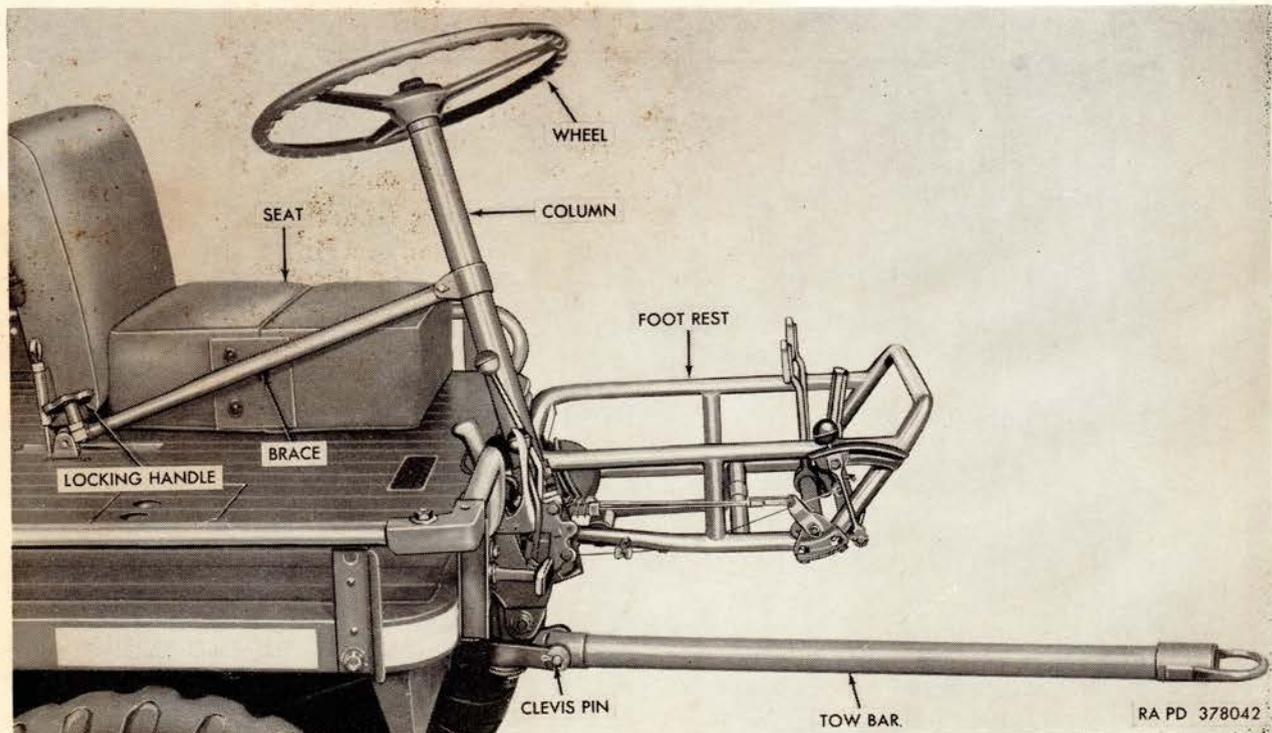
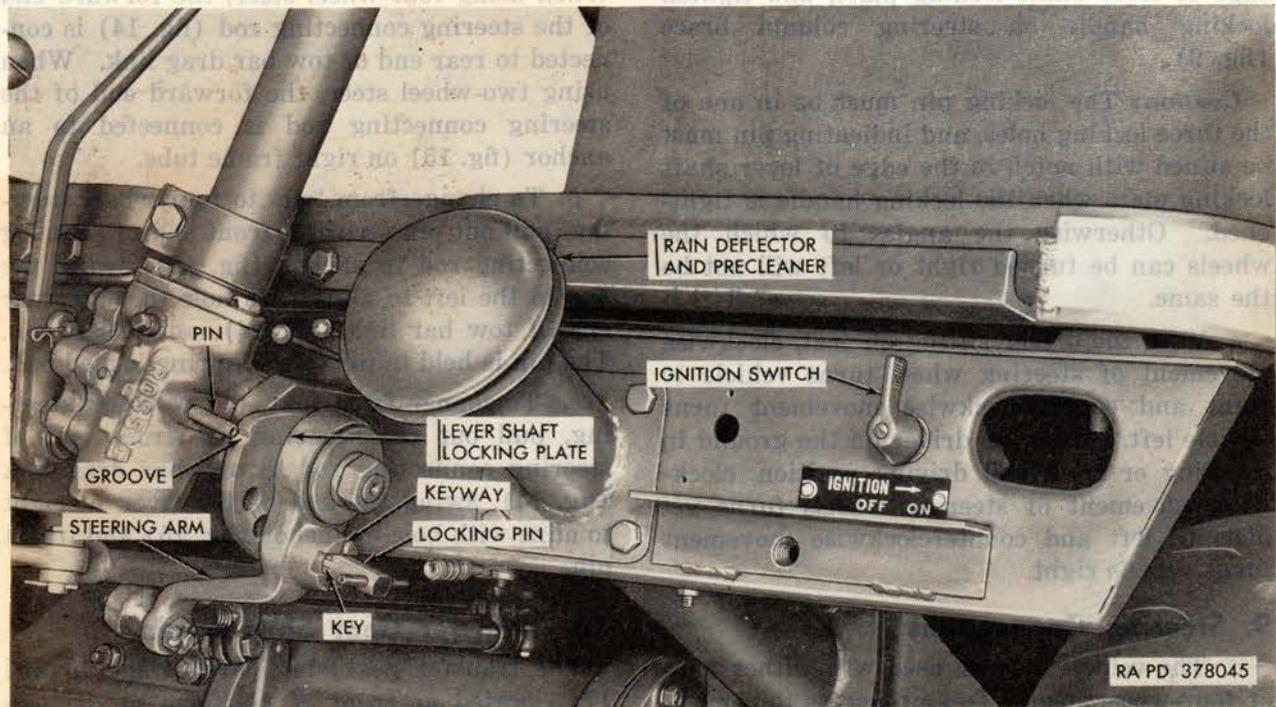
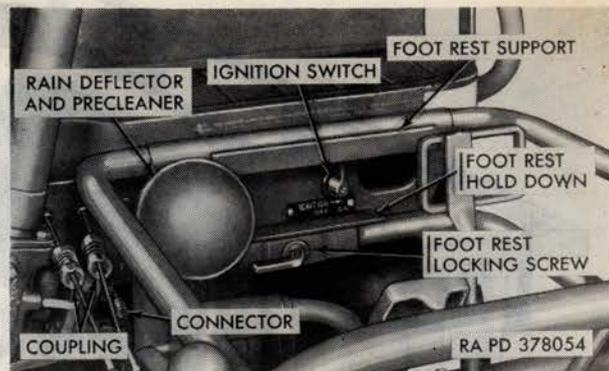

Figure 9. Steering wheel and column in extreme rear position.
Figure 12. Front end of vehicle with foot rest removed showing steering gear, rain deflector and precleaner, and ignition switch.
Figure 21. Front view showing ignition switch, quick-disconnect fittings, and screw for securing foot rest.
a. The steering wheel is mounted at upper end of steering column, at front of the vehicle. In order that steering wheel may be convenient for driver, either while driving from the seat or from a standing or crouching position on the ground, the column may be secured in any one of three positions. Figure 9 shows column and wheel in extreme rear position used
b. To change position of steering wheel loosen locking handle (fig. 9) on steering column brace and, while holding locking pin (fig. 12) in steering arm out as far as possible, move steering wheel to approximate position desired. Release the locking pin and move column forward or back slightly to allow pin to enter proper hole in lever shaft locking plate. Turn steering wheel until pin projecting from
steering gear housing is aligned with groove in edge of lever shaft locking plate, and tighten locking handle on steering column brace (fig. 9).
20. Ignition Switch (figs. 12 and 21)
a. *General.* The vehicle includes a driver's seat (fig. 9) and a footrest. The driver's seat is located on top of the platform at the left front corner. The foot rest is attached to the front of the vehicle at the left side in front of the seat. The foot rest includes accelerator, brake pedal, clutch pedal, and hand throttle. Both units may be easily removed from operating position on the vehicle, but are ordinarily not detached except when the vehicle is to be shipped, stored, or towed as disabled. In these cases, they are grouped and stowed under the platform on the right frame tube.
b. *Driver's Seat* (figs. 9 and 22).
- (1) *Removal.* Pull up seat back latch and unhook from seat back. Pull seat back up out of holes in platform and seat cushion and remove seat cushion.
- (2) *Installation.* Position seat cushion on top of platform at left front corner, with two holes in flap on back lower edge of cushion aligned with holes in platform. Push the two extensions of seat back frame through holes in cushion flap and into holes in platform. To secure seat back, pull up latch and hook into socket on right edge of back.
c. *Foot Rest* (fig. 21).
- (1) *Removal.* Separate clutch, brake, and throttle controls at connectors. To separate a connector, push sleeve at one end toward sleeve at other end